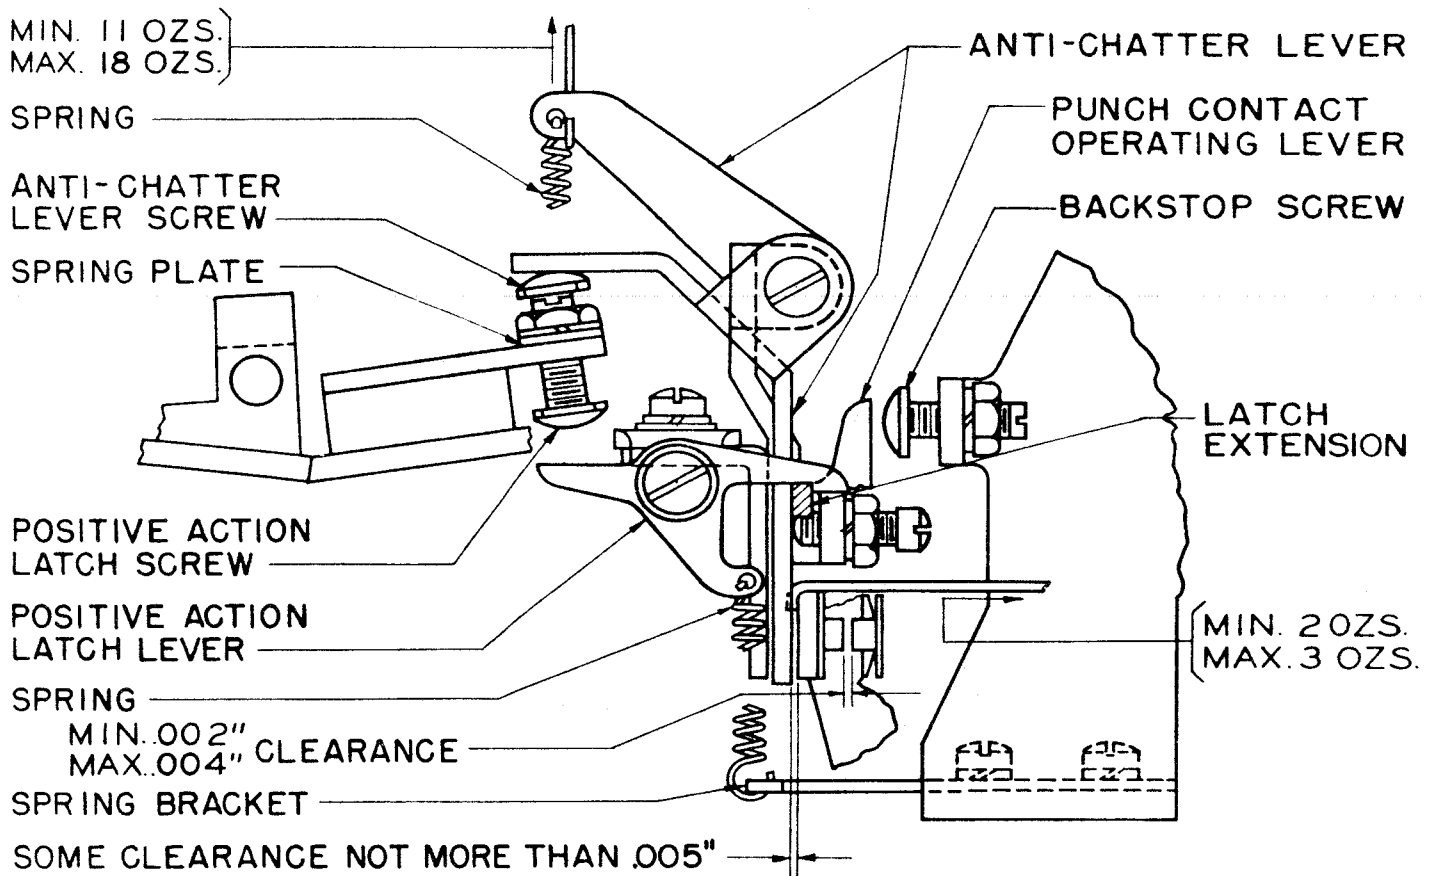

Figure 38
3. 32 Punch - magnet - control Left Contact Spring: It should require minimum 2 ounces, maximum 3 ounces to just start the punch-magnet control left contact spring moving away from its stiffener when the antichatter lever is held away from the insulator on the left contact spring. See Figure 38.
3.34 Punch-operating Contacts: There should be minimum 0.002 inch, maximum 0.004 inch clearance between the punch-operating contacts when there is some clearance between the antichatter lever and the insulator on the left (short) punch-operating contact spring, and the punch-contact operating lever is held in its latched position by the positive action latch. See Figure 38.
3.35 Antichatter Lever: There should be some clearance, not more than 0.005 inch, between the antichatter lever and the insulator on the left (short) contact spring when the punch-magnet armature lever is resting firmly against its left (unoperated) stop and the antichatter lever is resting firmly on its operating screw in the armature. See Figure 38.
its left stop and the antichatter lever operating screw is adjusted as in 3.35. See Figure 38.